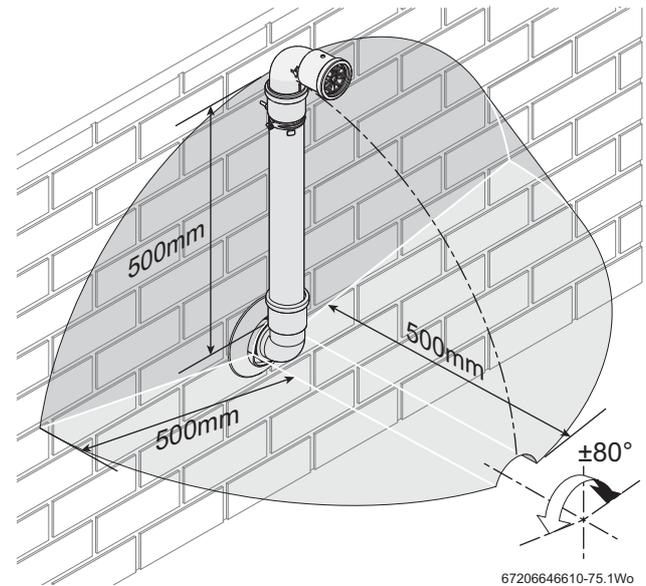

Fig. 18 Terminal exclusion zone
▶ Do not terminate the plume management inside the shaded area shown in figure 18